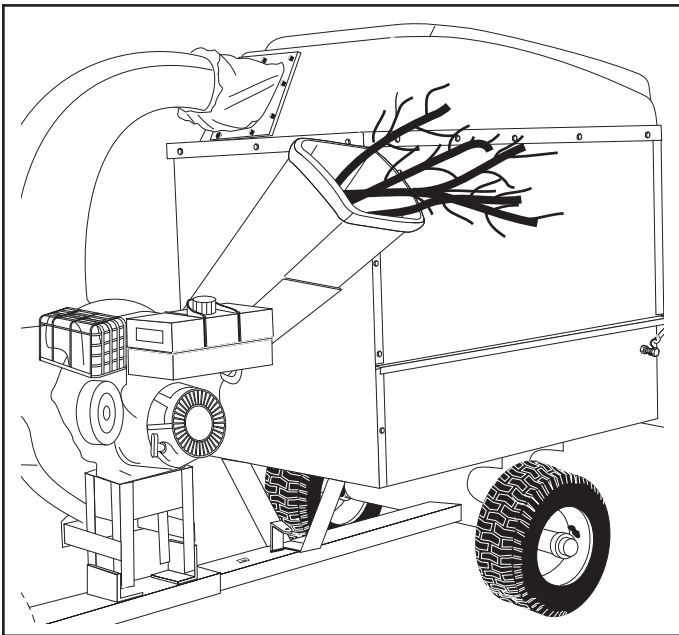

FIGURE 29
1. Material such as stalks or heavy branches up to 3" in diameter may be fed into the chipper chute as shown in figure 29.